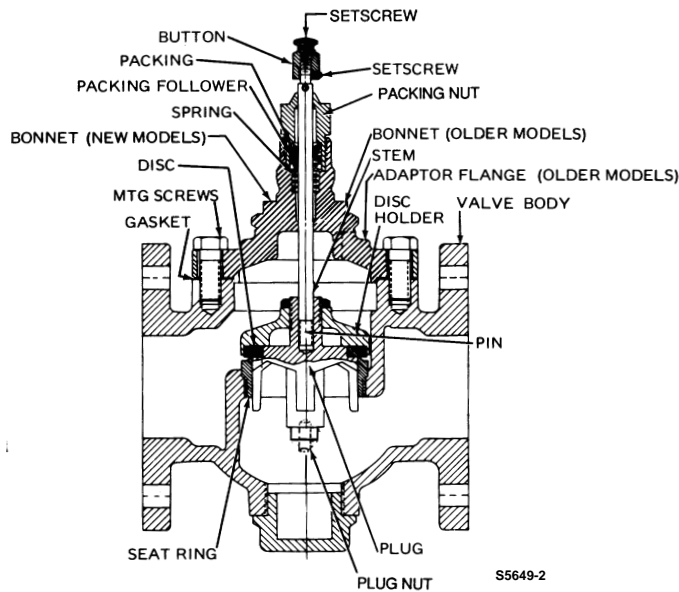

Fig. 13. V5011A and D Direct Acting Flanged Body Valve—Cutaway.
- d. V5011A and D Direct Acting Flanged Body Valves (Fig. 13). Remove the Bonnet Mounting Screws and Bonnet (and Adapter Flange in older valves). Lift out the Stem and Plug.
- c. V5011 Flanged Body Valves (Fig. 13). Remove the Plug Nut to release Disc Holder and Disc. Detach the Stem by removing Pin.